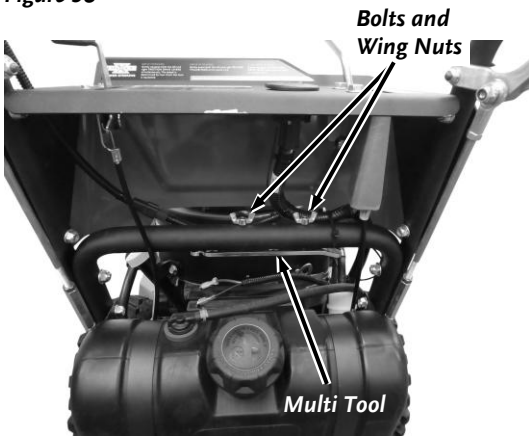

Figure 39
2. Remove the Two Bolts and Wing Nuts that secure the Multi-tool to the Lower Handlebar (**Figure 39**).